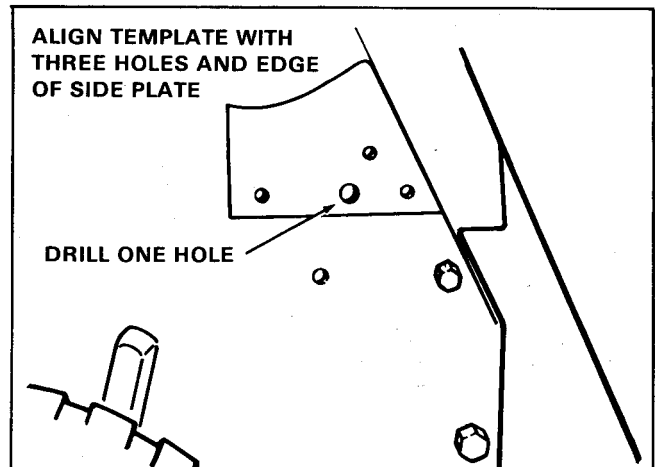

Figure 6. Align Template "C"
5. Position template "C" on tractor side plate behind right footrest as shown in figure 6. Mark position of new hole with a punch and remove the template. Drill on 11/32" dia. hole.